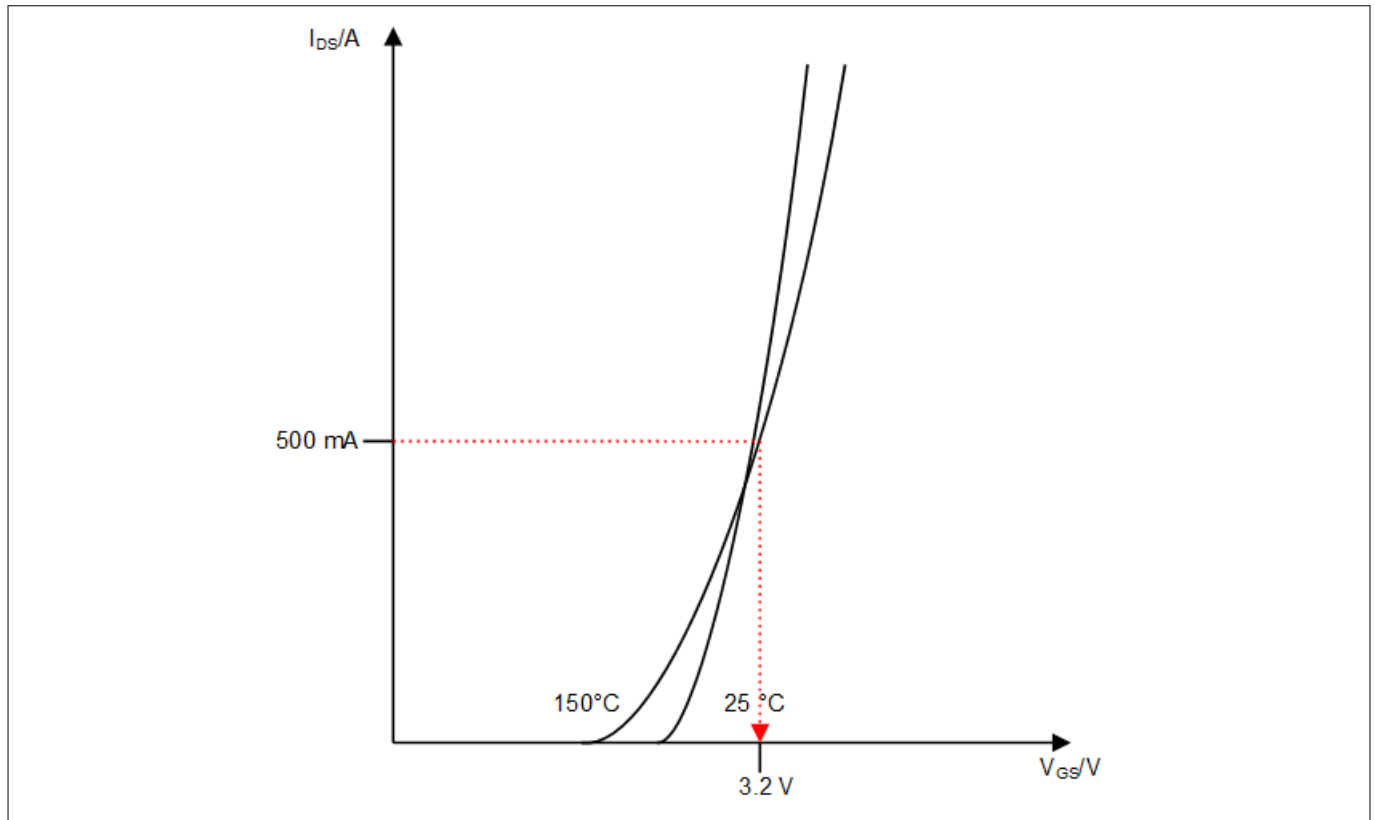

Figure 16 Example of a typical transfer characteristics curve
- In the datasheet of the MOSFET check the typical transfer characteristics curve to evaluate the voltage V_{GS} for your target current $V_{GS,target,evaluated}$; see Figure 16, note that this diagram shows typical values,